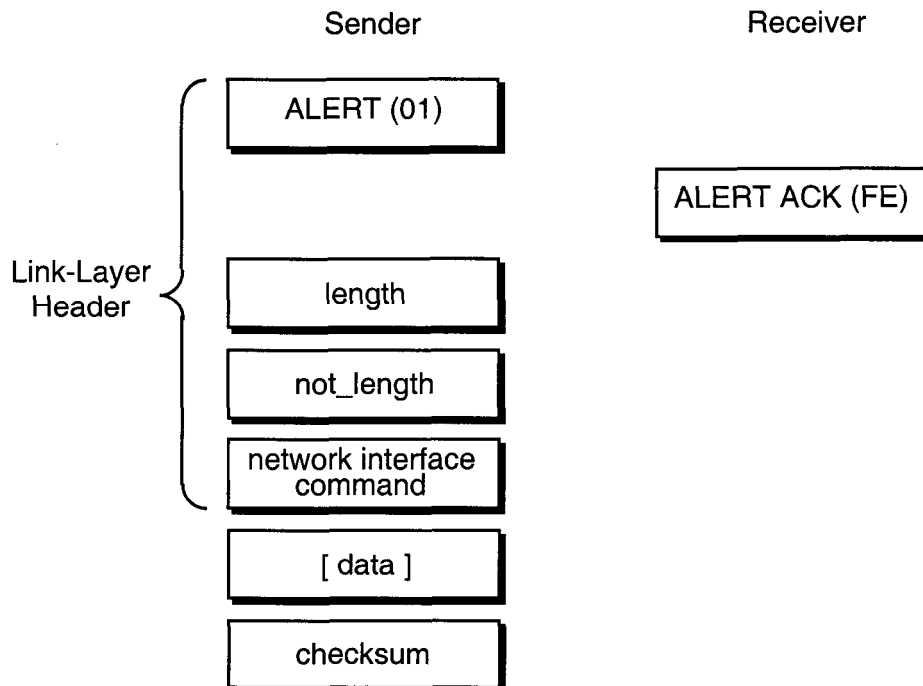

Figure 9.2 SLTA-10 Adapter ALERT/ACK Link Protocol
When using this protocol, all transfers between the SLTA-10 Adapter and the host consist of serial data streams that start off with the link-layer header sequence described in figure 9.2. Whenever one device, either the SLTA-10 Adapter or the host, needs to send a command or message, the sender starts the sequence by transmitting the ALERT byte (value 01 hex). When this byte is received by the receiver, that
- 2 The network driver requests an output buffer by sending a link-layer header (see figures 9.2 and 9.3) with a niCOMM or niNETMGMT command and the appropriate queue value (niTQ, niTQ_P, niNTQ, niNTQ_P). The data portion of the interface buffer is not sent with the buffer request. This puts the SLTA-10 Adapter in the OUTPUT QUEUE REQUESTED state.